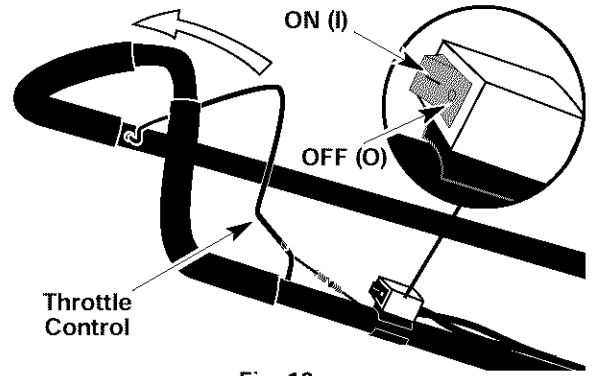

Fig. 10
NOTE: There is no need to turn the unit on. The On/Off Stop Control is in the ON (I) position at all times (Fig. 10).